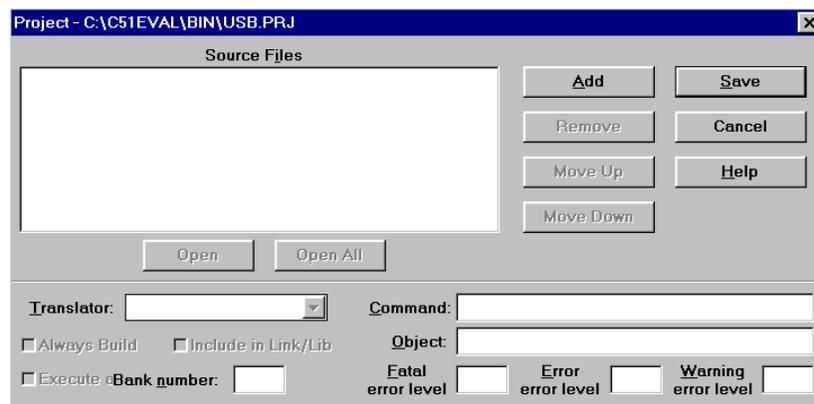

FIGURE 3b
2. Enter the name of the project you are creating. For this tutorial, enter the name *usb.prj* and press OK. *usb.prj* will be entered under File name. Figure 3b will then open up.